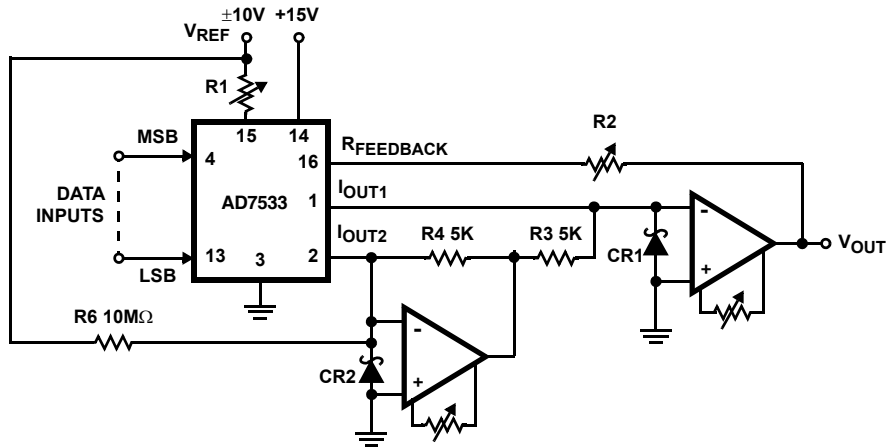

FIGURE 3. BIPOLAR OPERATION (4-QUADRANT MULTIPLICATION)
The circuit configuration for operating the AD7533 in the bipolar mode is given in Figure 3. Using offset binary digital input codes and positive and negative reference voltage values, 4-Quadrant multiplication can be realized. The "Digital Input Code/Analog Output Value" table for bipolar mode is given in Table 2.
12. V_{OUT} as shown in Figure 3.
13. Nominal Full Scale for the circuit of Figure 3 is given by:
14. Nominal LSB magnitude for the circuit of Figure 3 is given by: